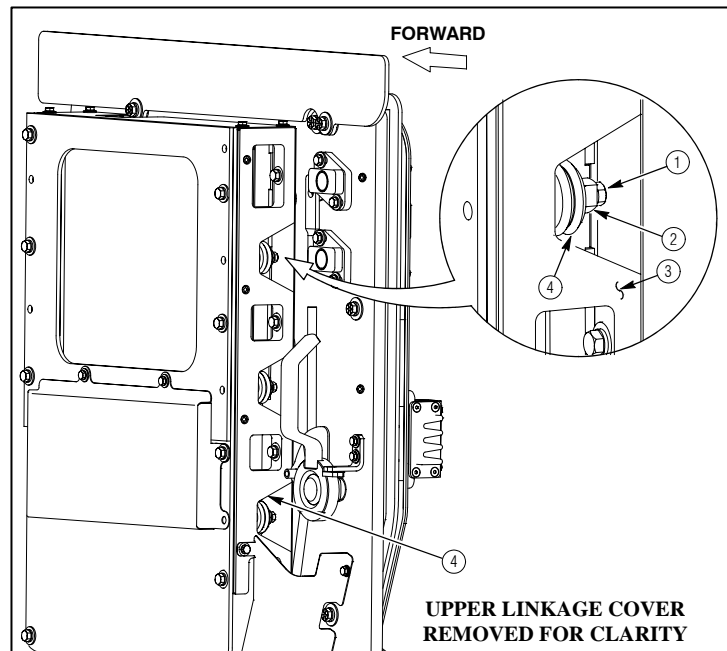

Figure 42c
1. Loosen screw (1) to allow roller cam (2) to be adjusted. See figure 42c.
2. On right side of vehicle, adjust roller cam (2) by rotating clockwise to tighten or counter-clockwise to loosen. See figure 42c.
3. On left side of vehicle, adjust roller cam (2) by rotating counter-clockwise to tighten or clockwise to loosen. See figure 42c.
4. After correct window travel is achieved, tighten screw (1) to 25 lb-ft (18 N·m). See figure 42c.